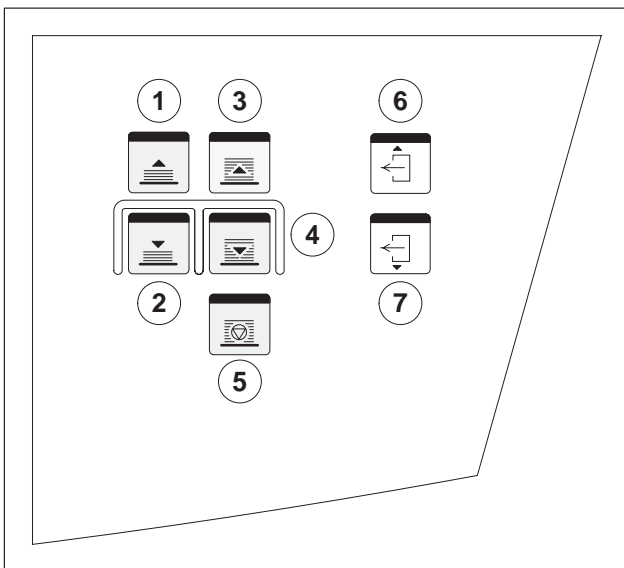

Fig. 16
1. When the *Main pile up* button (Fig. 16/3) is pressed, the pile moves up to the paper detection sensor, and stops there. The pile alignment system performs a first alignment of the pile support plate.